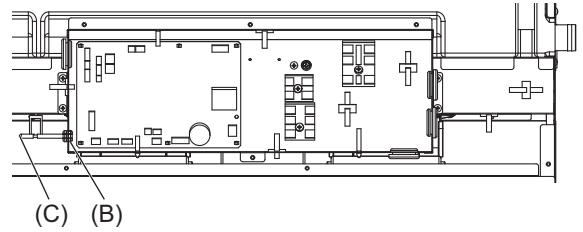

Fig.3
(1) Pull out the thermistor holder (B) and thermistor (C) on the control box in Fig. 3.